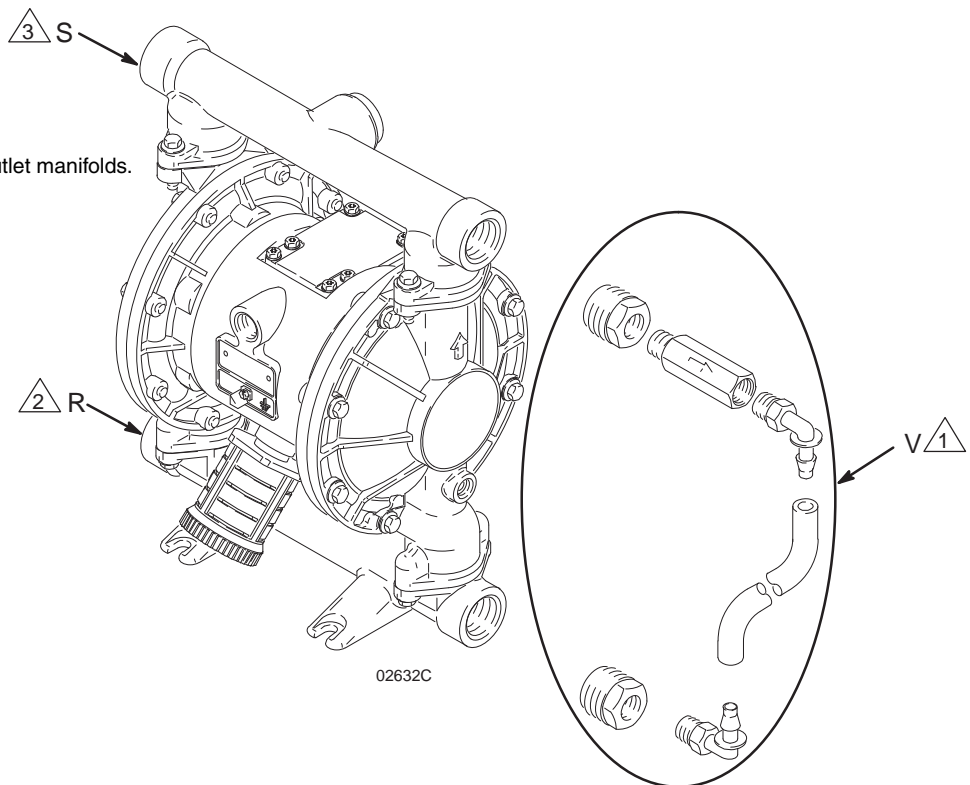

Fig. 7
Pressure Relief Kit 238428 (V) is available for Aluminum Pumps, to prevent overpressurization and rupture of the pump or hose. See Fig. 7. The kit includes instructions.